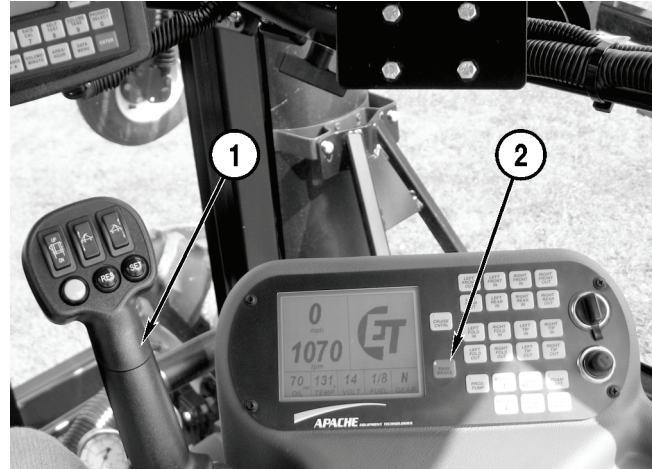

Figure 3-17
2. Shift the transmission to NEUTRAL (**Figure 3-17, 1**).
4. Apply the parking brake (**Figure 3-17, 2**).